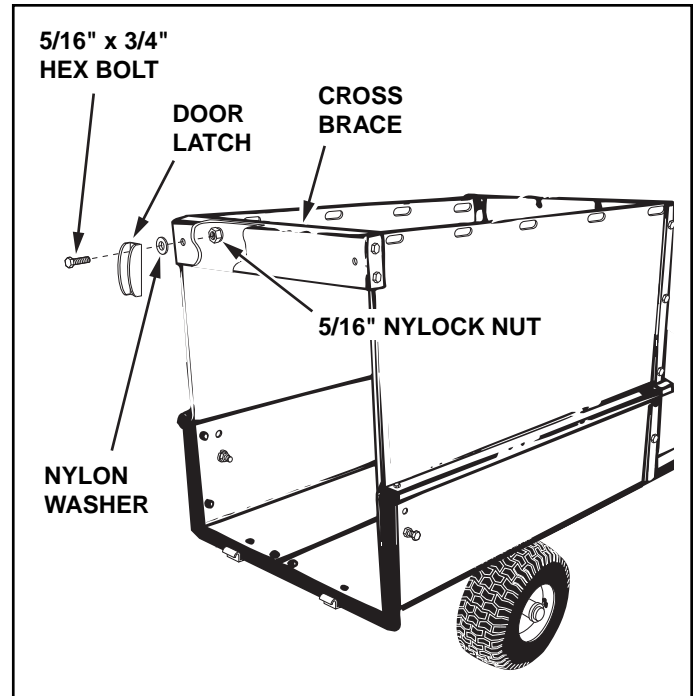

FIGURE 13
23. Assemble a door latch at each end of the cross brace using a 5/16" x 3/4" hex bolt, a nylon washer and a 5/16" nylock nut. Place the nylon washer between the door latch and cross brace. **Tighten** so that latch is snug but will still rotate. See figure 13.